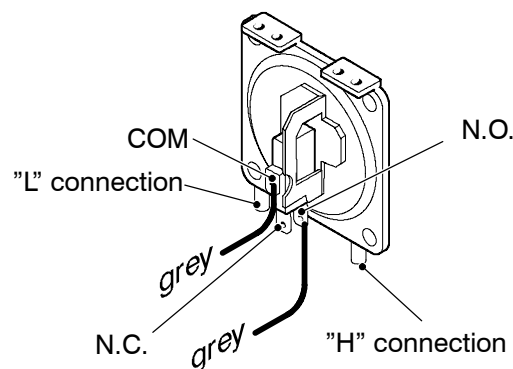

Fig. 76
- 2 Disconnect the wires and check the electrical resistance between the connections of the Air pressure switch. Refer to the Fig. 76 in accordance with the type of air pressure switch used.